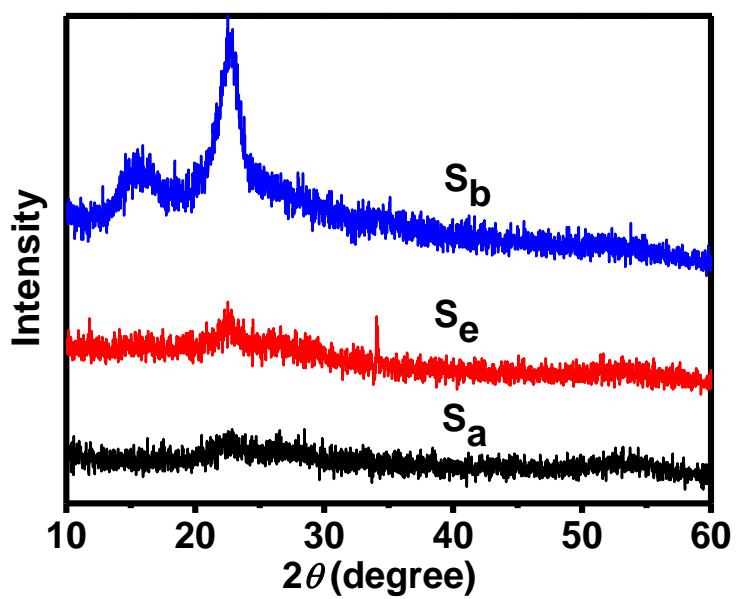

Figure S2: XRD patterns of S_a, S_b and S_e.
4. XRD patterns of S_a , S_b and S_e (Figure S2).